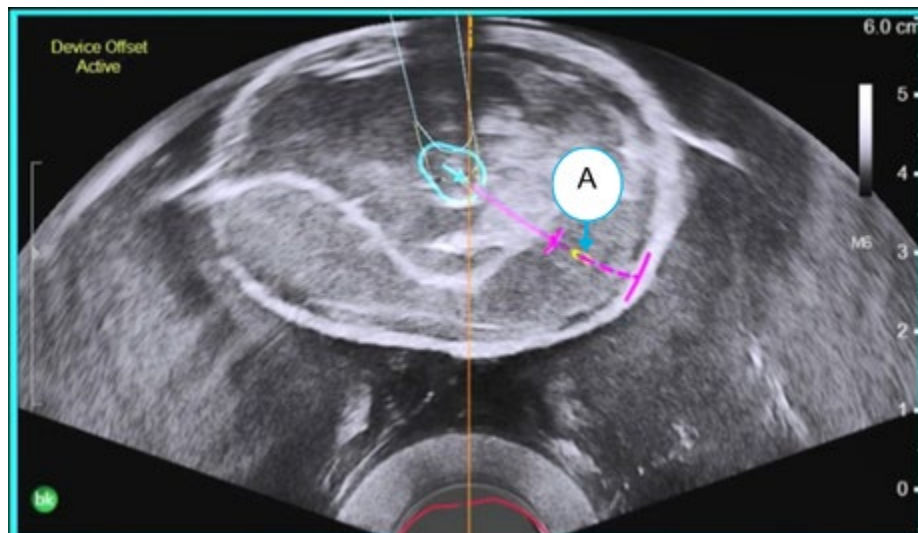

Figure 12-14: Projected Needle Path Crossing the Axial Plane
2. Press the Delivery Device Attachment **Stabilizer Power Switch (D)** to unlock the Delivery Device Stabilizer Arm.
4. Move the device in or out as needed so that the projected Needle path crosses the Axial Plane at the target location. A yellow dot will indicate this location on the Axial Plane (**Figure 12-14**).